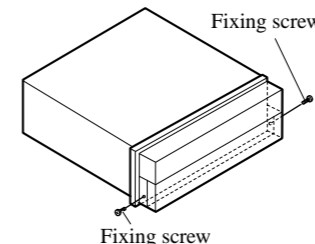

Fig. 16
- **Fix the front panel to the unit using fixing screws after removing the front panel. (Fig. 16)**